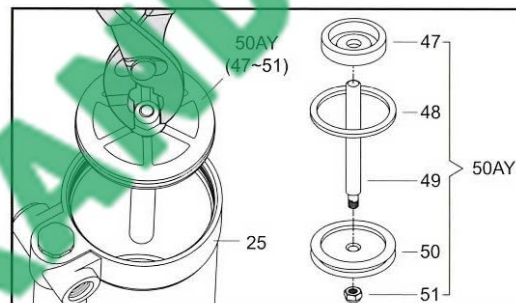

Fig.7
2. Unscrew the Air Cylinder End Cap (53) & O-Ring (52) with the Wrench 27-12 (58), use a pair of pliers to slowly pull out the Air Piston Assembly (50AY) in a straight line. (Fig.7)
11. Use a pair of pliers to clamp the Air Piston Lock Nut (51), and then slowly plug the Air Piston Assembly (50AY) in a straight line into the Oil Cylinder (12) through the Oil Cylinder Lock Nut (29). (Fig.7) Finally reassemble the Air Cylinder End Cap (53) & O-Ring (52) with the Wrench 27-12 (58).